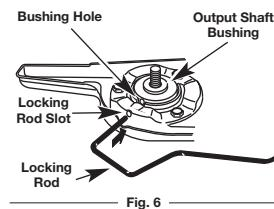

Fig. 6
1. Align the shaft bushing hole with the locking rod slot and insert the locking rod into the bushing hole (Fig. 6).
6. Align the shaft bushing hole with the locking rod slot and insert the locking rod into the bushing hole (Fig. 6).
- Align the shaft bushing hole with the locking rod slot and insert the locking rod into the bushing hole (Fig. 6).
- Align the shaft bushing hole with the locking rod slot and insert the locking rod into the shaft bushing hole (Fig. 6). Place the blade retainer on the output shaft with the flat surface against the output shaft bushing (Fig. 11). Screw the cutting attachment counterclockwise onto the output shaft. Tighten securely.